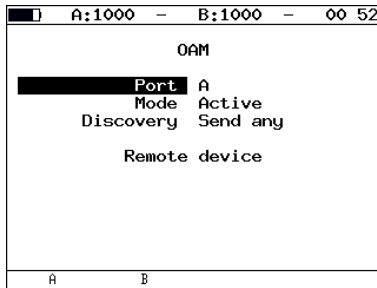

Figure 5.50. OAM menu
- Switch to the *OAM* menu (see fig. 5.50).